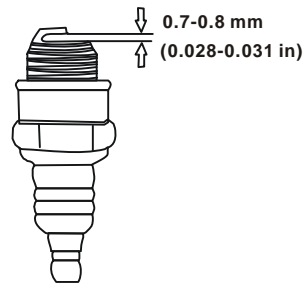

Figure 20- Measuring the spark plug gap
4. Measure the plug gap with a gauge (see figure 20). The gap should be 0.7-0.8mm (0.028-0.031in).